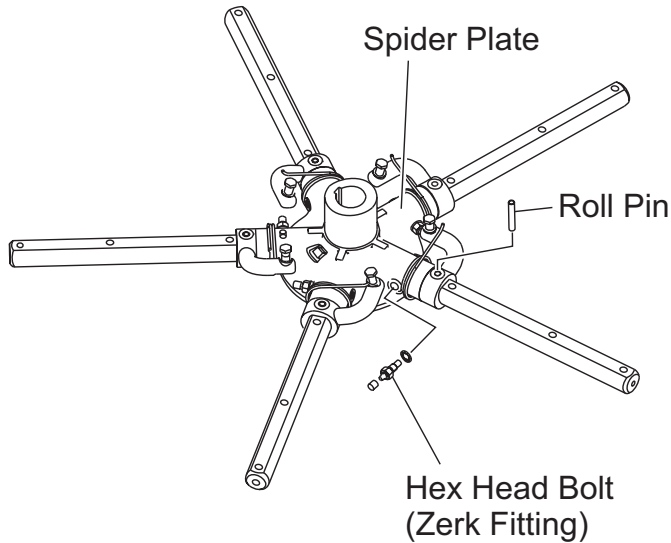

Figure 47. Remove Zerk Grease Fitting And Roll Pin
- Each trowel arm is held in place at the spider plate by a hex head bolt (Zerk grease fitting) and a roll pin. Remove both the hex head bolt and the roll pin from the spider plate (Figure 47).